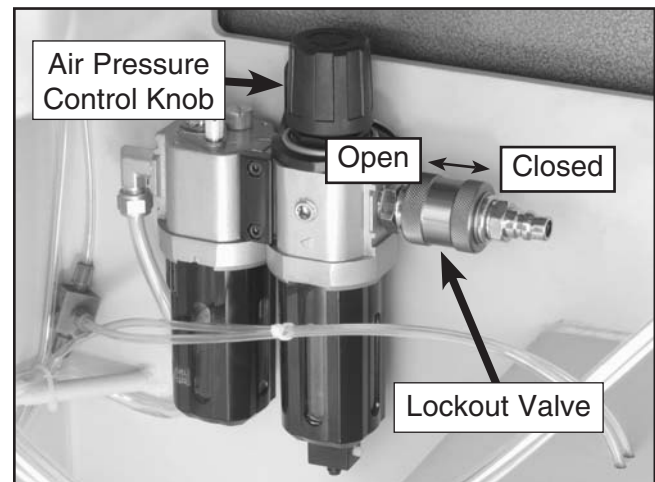

Figure 16. Filter/lubricator/regulator located inside cabinet.
1. Open the front cabinet door and locate the filter/lubricator/regulator inside the cabinet (see **Figure 16**).